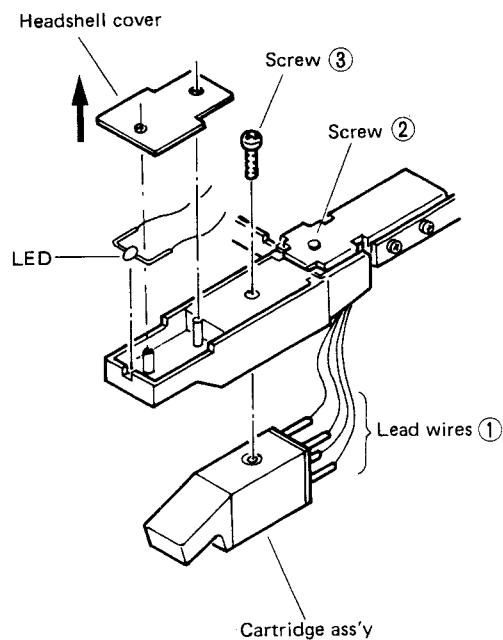

Fig. 8
5-(5) Replacement of cartridge (Fig. 8)
2. Remove lead wires ①.
3. Remove the securing screw ② of the headshell.
4. Remove screw ③, then replace the cartridge.
5-(6) Replacement of PLAY indicator (LED) (Fig. 8)